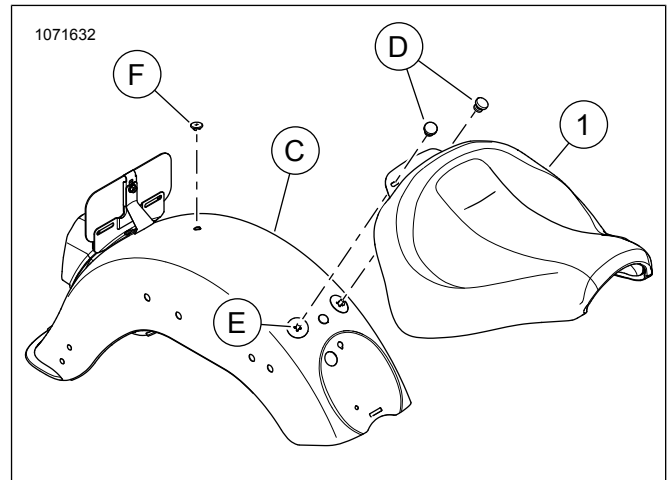

Figure 2. Service Parts: Dual post mount
2. See Figure 2. On the dual post mount fender (C), remove the plastic cap (F) from the front seat mount hole and install it in the rear seat mount hole.